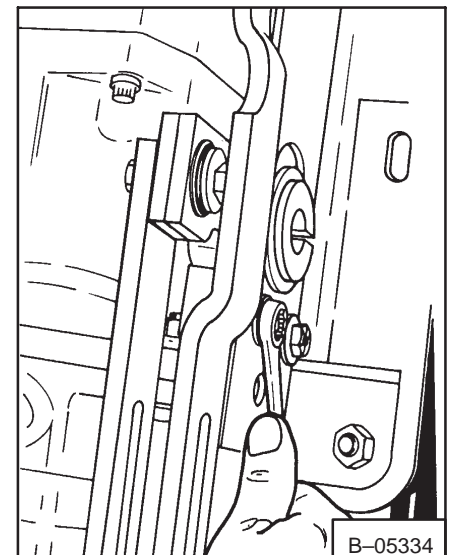

Fig. 3-15 Pintle Bar Bolts
6. Adjust the rear pintle bar (Fig. 3-15) so that the bar is tight against both lobes of the pintle lever and the transmission is still in the neutral position. Tighten the bolts on the bar to 28 ft.-lbs. (38 Nm) torque.